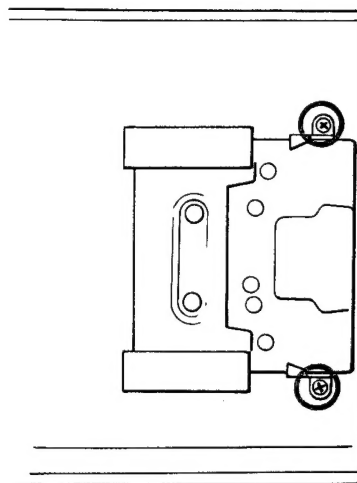

Fig. 3.8 Screws for head bridge guide brackets
5. Remove the screws holding the head bridge guide brackets, see Figure 3.8. Push the brackets to the left and lift up. Allow the brackets to hang in the springs. Lift the head bridge out and to the side. Remove the drive belt from the counter.